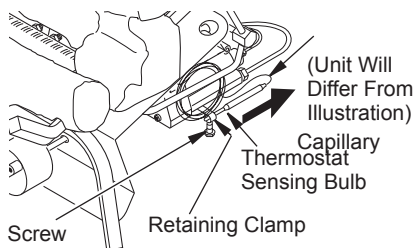

Figure 29 - Removing Thermostat Sensing Bulb
2. With 5/16" hex driver or socket, loosen the thermostat screw. Carefully slide the thermostat sensing bulb out of the retaining clamp (see Figure 29).